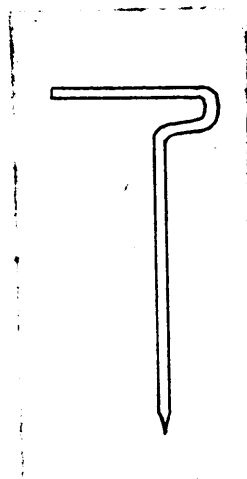

Figure 3.
4. Measure off  $2\frac{1}{2}$ " from A towards B, and bend as shown in (Figure 3). This bendingshould be done over the horn of the anvil.